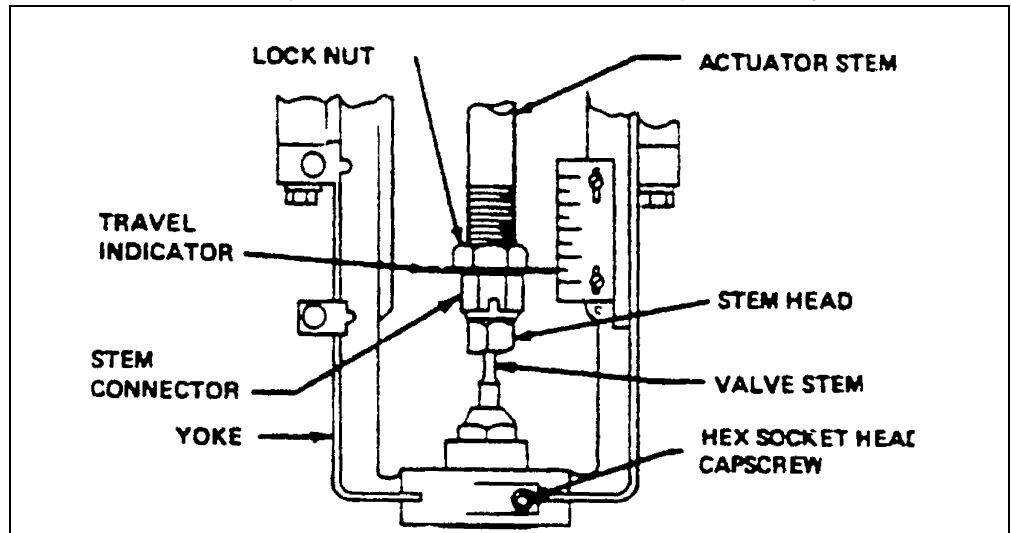

Figure 8: Actuator Mounting (Pneumatic Actuator)
**NOTE:** Refer to nameplate to determine actuator and valve combination. See Figure 8 for pneumatic actuator mounting. See Figure 9 for stem connection.